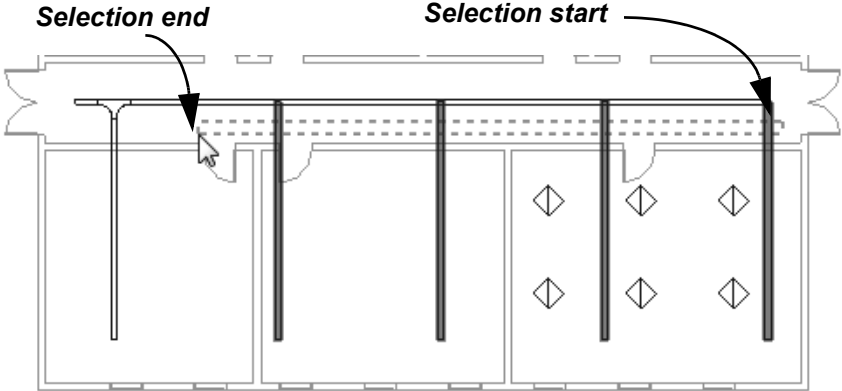

Figure 2-91
- 8. Select the horizontal cable tray and then draw a crossing window from right to left, as shown in Figure 2-91.